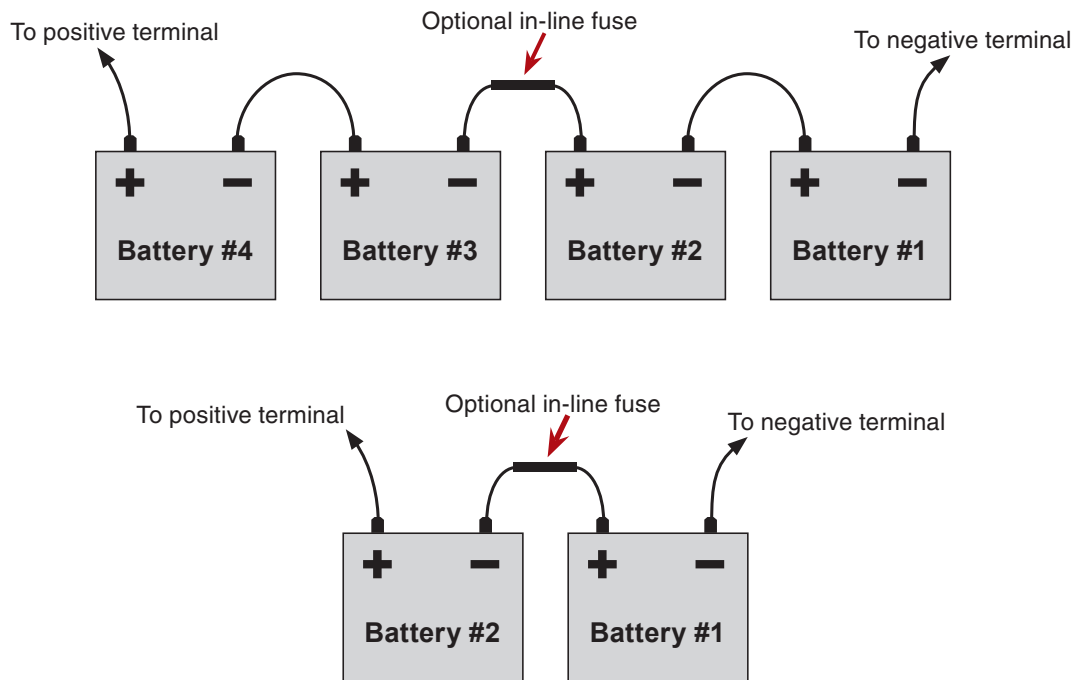

Figure 19 — FXM UPS External Battery Wiring for 48 VDC string (top) and 24 VDC String (bottom)
3. Connect the batteries as shown in Figure 19.